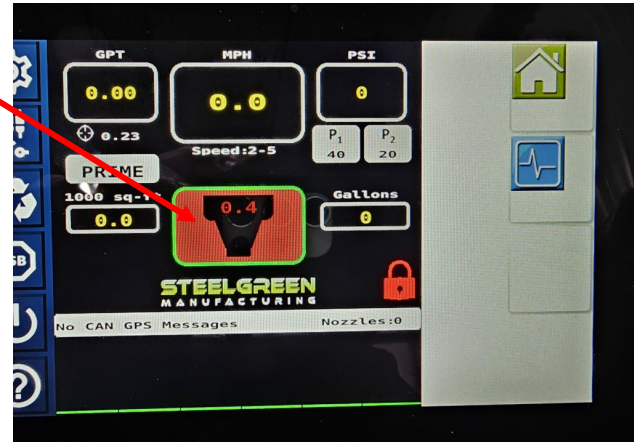

Fig. 1
- The spray boom can be raised or lowered individually by pressing the up\down buttons. You can stop the booms at level or they can be positioned -15° for hill side spray (see Fig. 1).